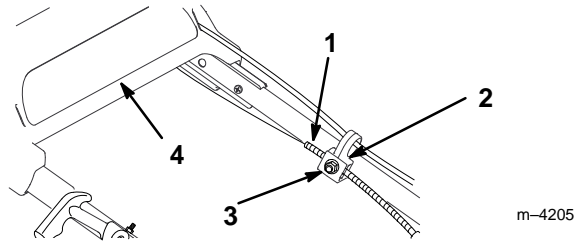

Figure 20
- Loosen the cable support nut (Fig. 20).
- With the upper handle pushed and held back as far as possible and while holding the drive bracket down, pull the cable jacket down (toward the mower) until all slack is removed from the cable (Fig. 20).
- Tighten the nut on the cable support (Fig. 20).